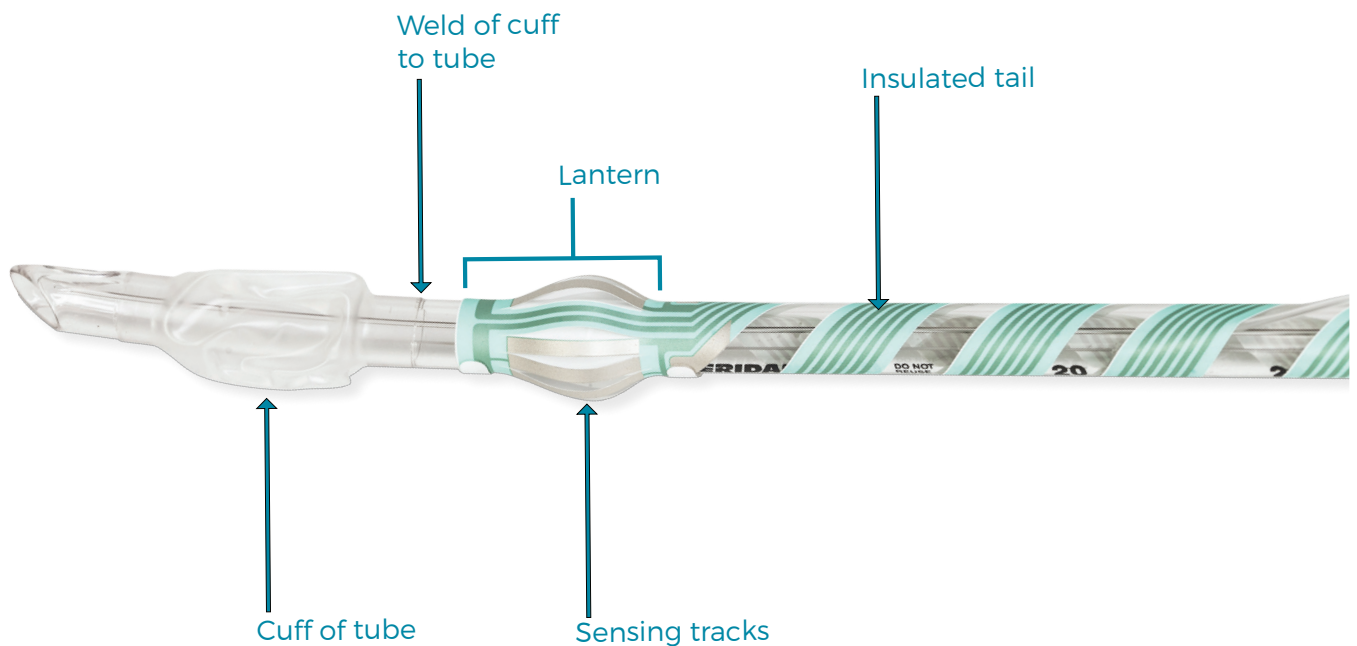

Figure 4.1: Lantern Laryngeal Electrode placement on the endotracheal tube.
3. Attach the LLE to the endotracheal tube according to the instructions for use provided. If the edge of the lantern (Figure 4.1, page 6) is placed 2-3mm from the weld of cuff to tube, the black lines on some tubes will remain visible.